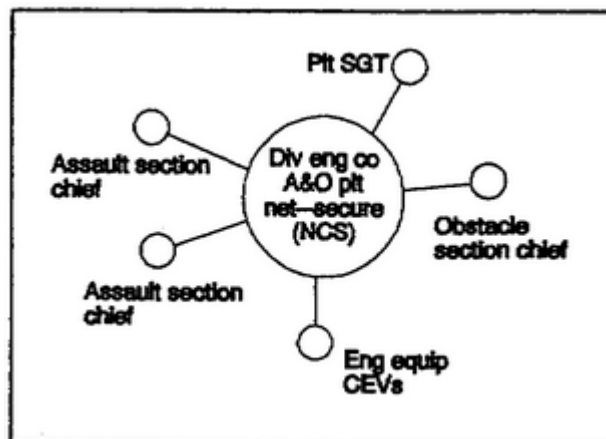

Figure 3-11. Division engineer company A&O platoon net-secure.
- (g) Division engineer company A&O platoon net-secure (Figure 3-11) (nine each division).